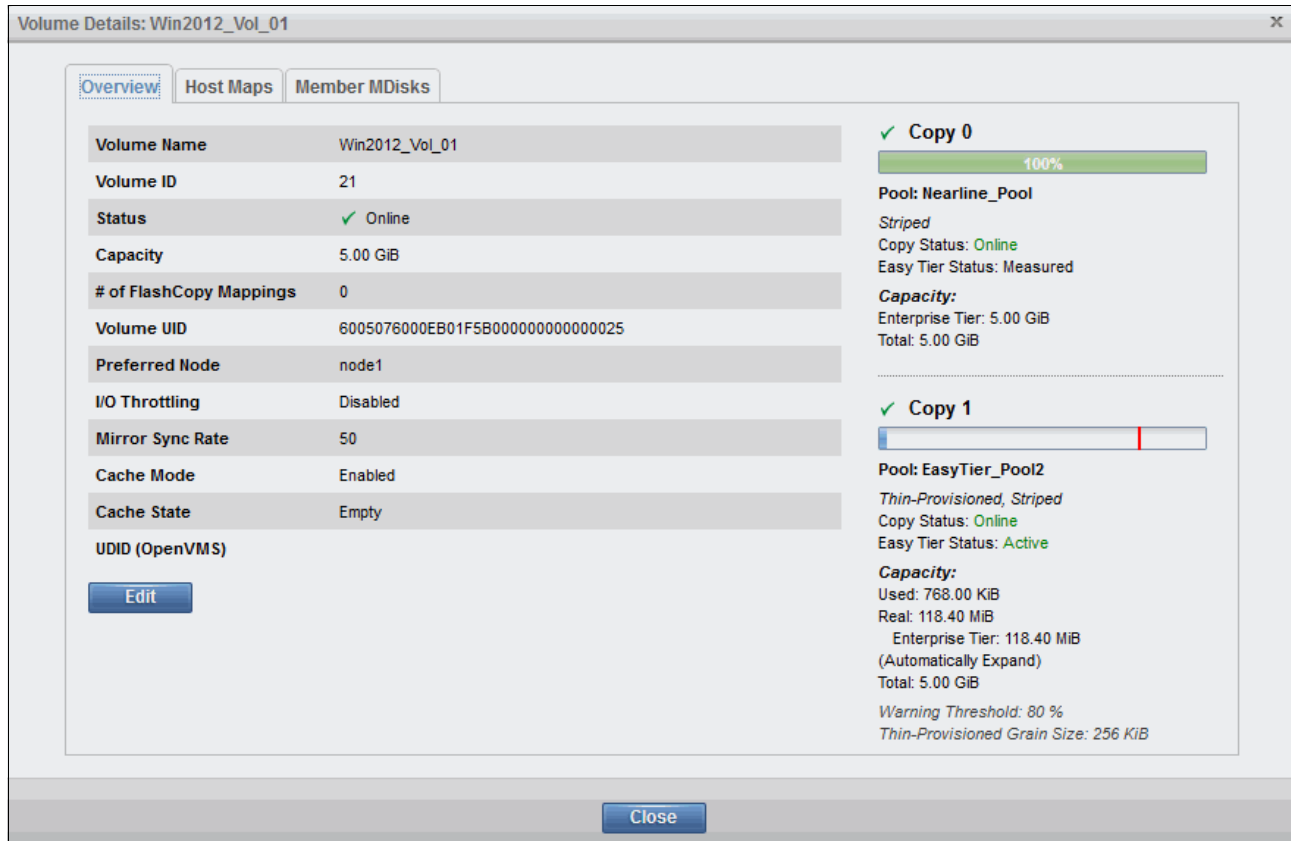

Figure 8-54 Volume Details: Overview
1. Select **Properties** from the Action menu, and the Volume Details pane opens, as shown in Figure 8-54 on page 397.
The Overview tab gives you a complete overview of the volume properties. The left part of the pane displays common volume properties, and the right part of the pane displays information about the volume copies, as shown in Figure 8-54.